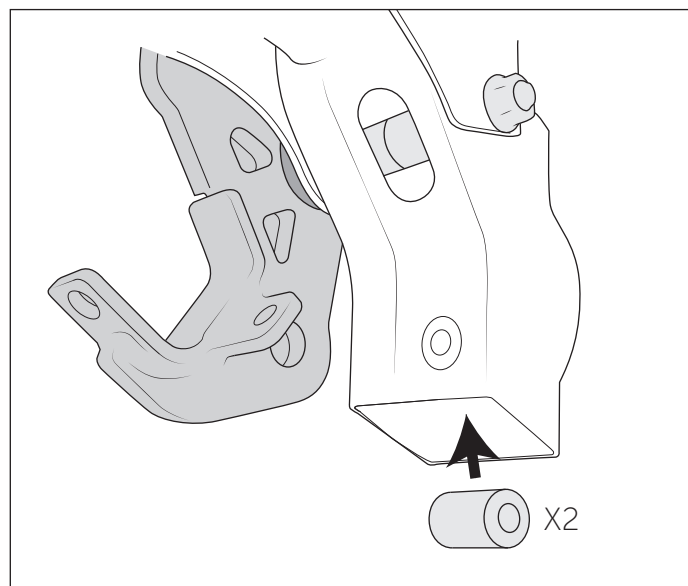

Figure 9: Front Right Side Shown
10. Feed the provided tube spacer crush sleeves (two per side) through the opening in the bottom of the frame compatibility beams one at a time using a telescoping magnet. Feed the tow loop bolt through the outer bracket, frame rail, crush sleeve spacers, and inner bracket (fig. 9). You can loosely install a flange nut onto the bolt now if your are not installing a winch mount.